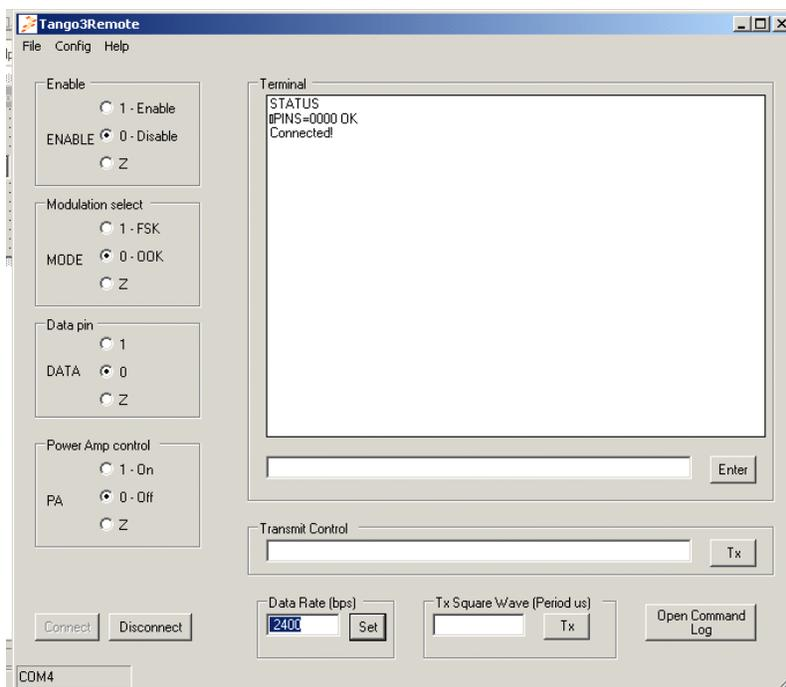

Figure 1. Tango3Remote Screenshot
2. Start Tango3Remote from the Windows Start menu using Start->Tango3Remote. You should now see the window shown in Figure 1.